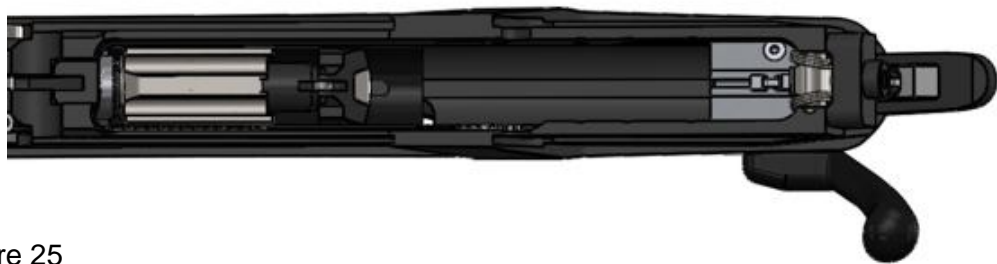

Figure 25
(4) Push the bolt into locked position. (Figure 25)